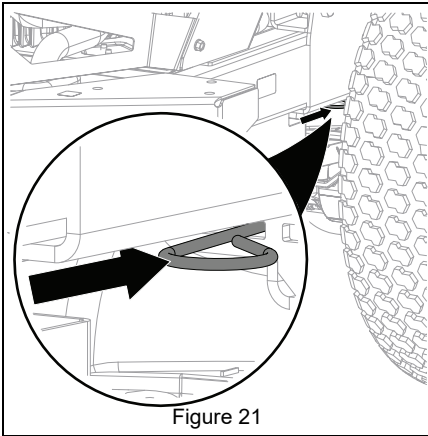

Figure 21
5. Return transaxle bypass levers to operating position. See Figure 21.